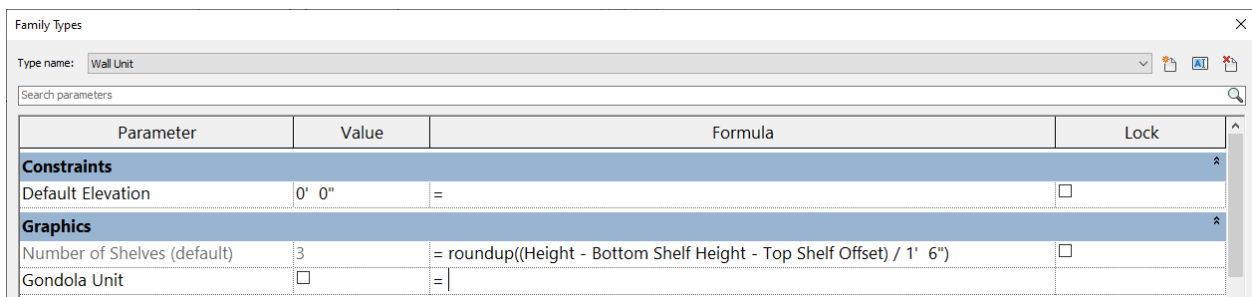

Figure 46
3. Open “Family Types” and in the formula field next to Number of Shelves, input: **roundup((Height - Bottom Shelf Height - Top Shelf Offset) / 1' 6")** (see Figure 46).